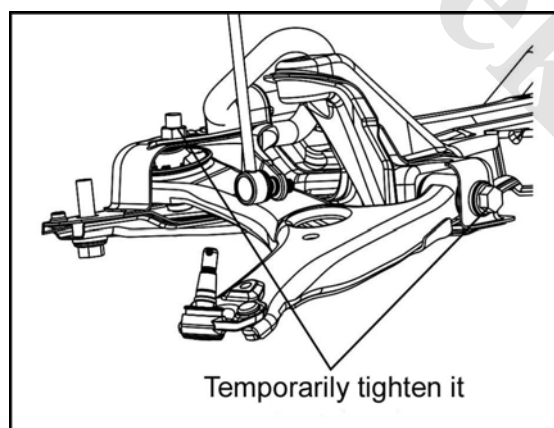

Fig. 2-15
- 3) Dismantle the 2 bolts and nuts, and remove the front lower arm assembly according to Fig. 2-15. Please do not rotate the locking nut because any rotation will cause damage to it.